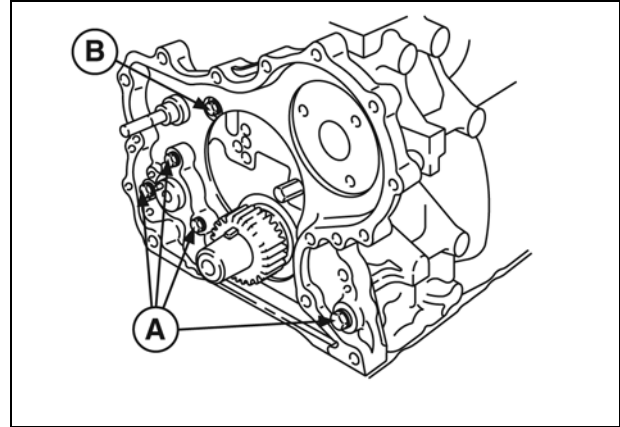

Figure 11
2. Install timing gear case with new gasket (Figure 11). It may be necessary to rotate oil pump drive to engage oil pump rotors.